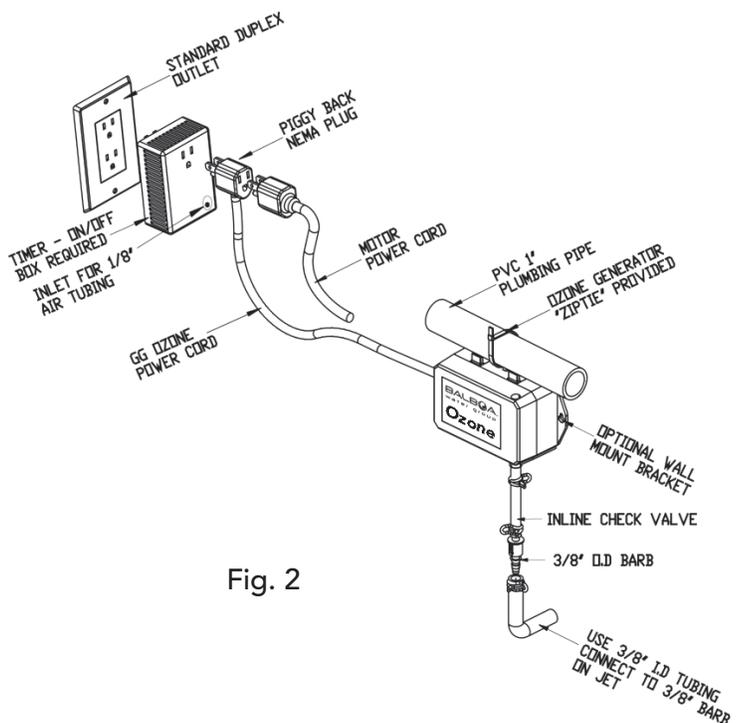

Fig. 2
B. Alternate electrical connection using ON/OFF timer box (See Figure 2)